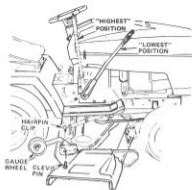
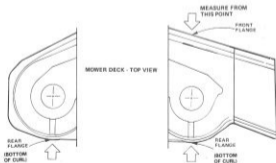

FIGURE 43
FIGURE 45
1. Use a ruler to make sure bottom of curl at rear of mower deck are the same height from the ground on each side. Measure from points indicated w/arrows (Fig. 45).
3. Move Attachment Lift Lever to full "UP" position (Fig. 43).
Move Attachment Lift Lever to full "UP" position (Fig. 43). After leveling side to side, measure Bottom of Curl at R.H. Front Flanges at FRONT AND REAR OF MOWER. The R.H. Front Flanges should measure 3/4" lower than at the R.H. REAR flange (Fig. 45). If adjustment is required follow the procedure below.
3. With mower deck at desired height, set Gauge Wheels (Fig. 43) to lowest position without touching the ground.
Use adjustment Lift Lever to set mower at the approximate cutting height you need. Use Clevis Pins (Fig. 43) to set gauge wheels at lowest point without touching the ground.